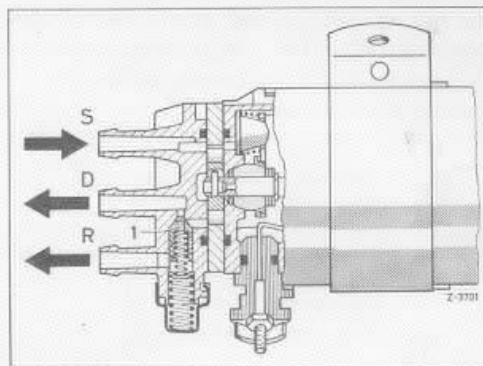

FIG.2
1. The FUEL PUMP (Fig.2) supplies approx. 60% more fuel than needed. This keeps the fuel lines relatively cool and chances of vapor locks are therefore minimal.